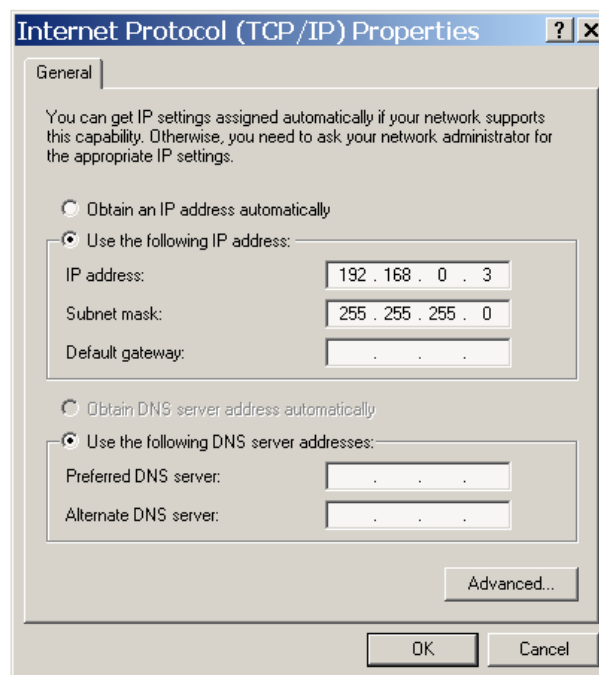

Figure 51: TCP/IP Priorities Dialogue Box
4. Enter the information shown above in **Figure 51** and click “OK” to accept the changes.
6. Continuing from item 4 and **Figure 51**, on page 42, enter the required information.